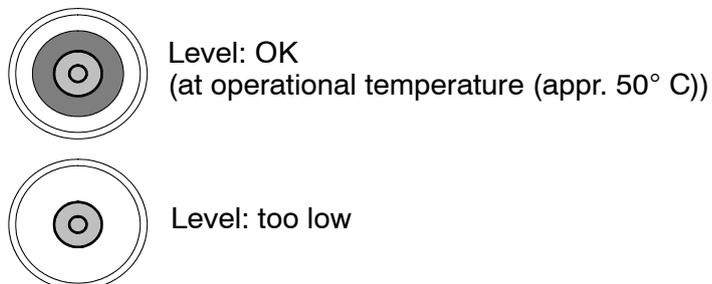

Figure 16 : Measuring cone (top view)
- Fill in distilled water (**only** distilled water from Raytheon Anschütz, part number 148-398, one 230cm³ bottle) into the inlet for supporting liquid until the measuring cone shows “Level O.K.”, see Figure 16 .